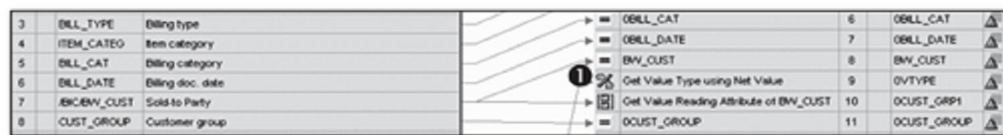

Figure 7.67 Formula Transformation Type Icon
The transformation type formula is indicated with the icon shown in ❶ of Figure 7.67.